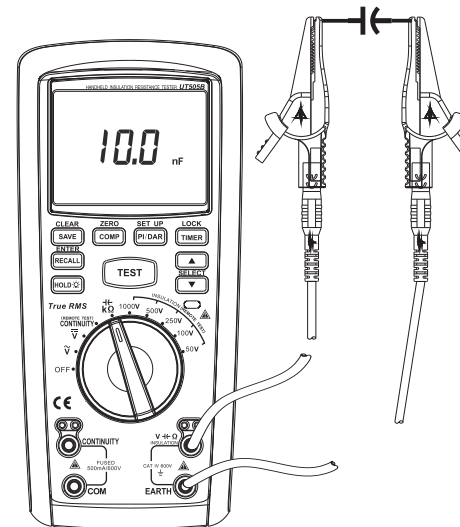

Figure 8
4.2 Measuring of Capacitance (See Figure 8)
- ① Insert the red probe into “V” jack (red jack), and black one into “EARTH” jack (black jack).
- ② Rotate dial switch to “KΩ/” tap position and connect the probe to two ends of tested capacitance in parallel.
- ③ Press “▼/SELECT” to select capacitance tap position.
- ④ Read current measuring value of capacitance from the display.
- ⑤ In measuring, if intending to save measured capacitance, press the key of “SAVE/CLEAR” for saving.